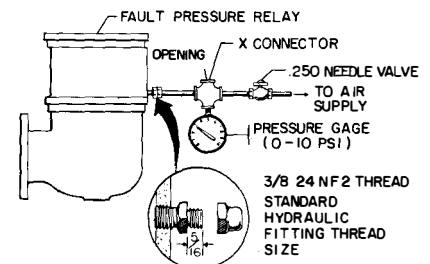

Fig. 4. Field test of fault-pressure relay
To test the operation of the relay, a means must be provided to apply an increasing pressure to the elbow side of the relay. With the relay mounted on the transformer, this may be done through the vent valve as shown in Fig. 4. A suggested test method is outlined in the following paragraphs:
4. Remove the vent cap and connect an air supply as shown in Fig. 4.